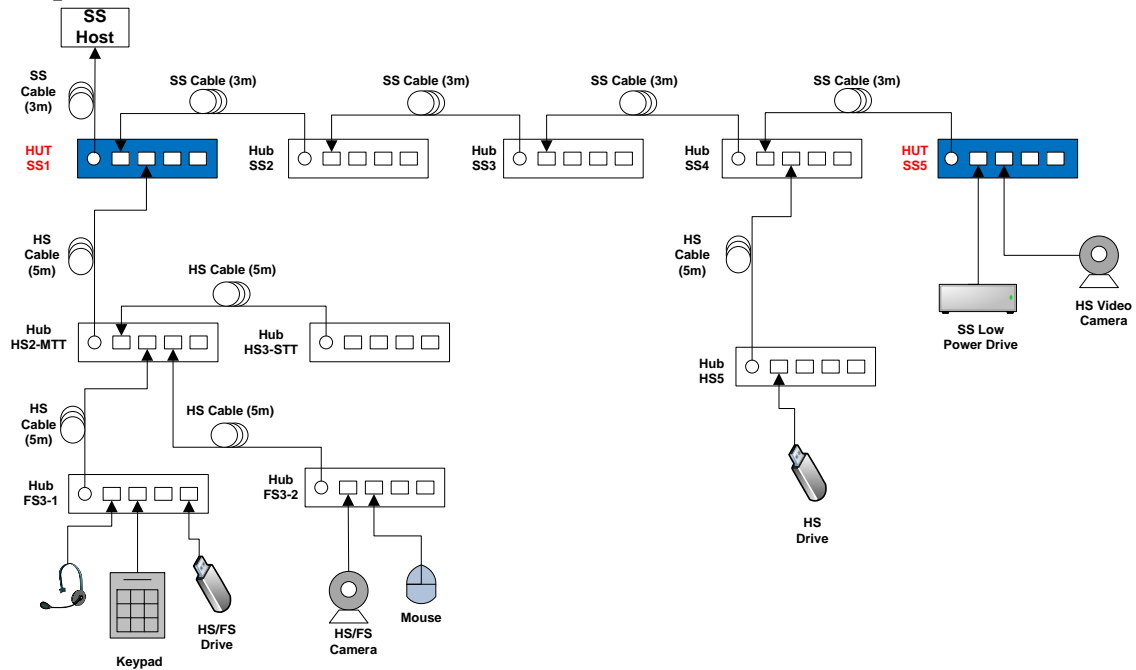

Figure 10-2: Modified Hub (SuperSpeed Interoperability) Interim Tree
- Connect HUTs as shown in Figure 10-2 (Note use of 5 hubs)